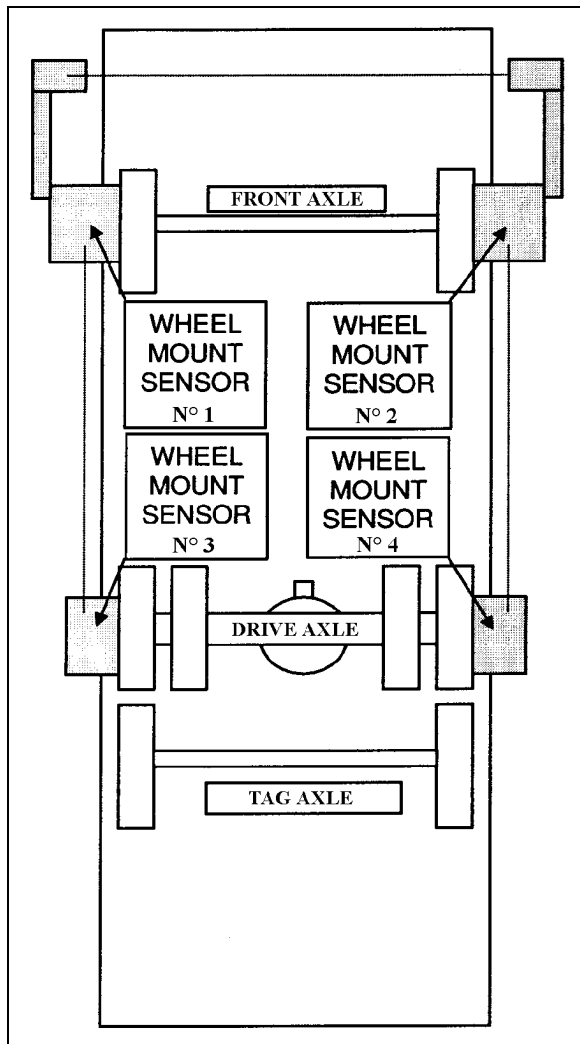

FIGURE 7: FRONT & DRIVE AXLE ALIGNMENT 11025
3. Install wheel mount sensors on front and drive axles (fig. 7).
See reference numbers on wheel mount sensors (fig. 7).
With the system installed as for front axle alignment (fig.7), adjust drive axle according to specifications' chart below. Use static wheel alignment systems which work with angle measurements only, such as Josam or Hunter systems. Static alignment specifications are listed in the following tables: